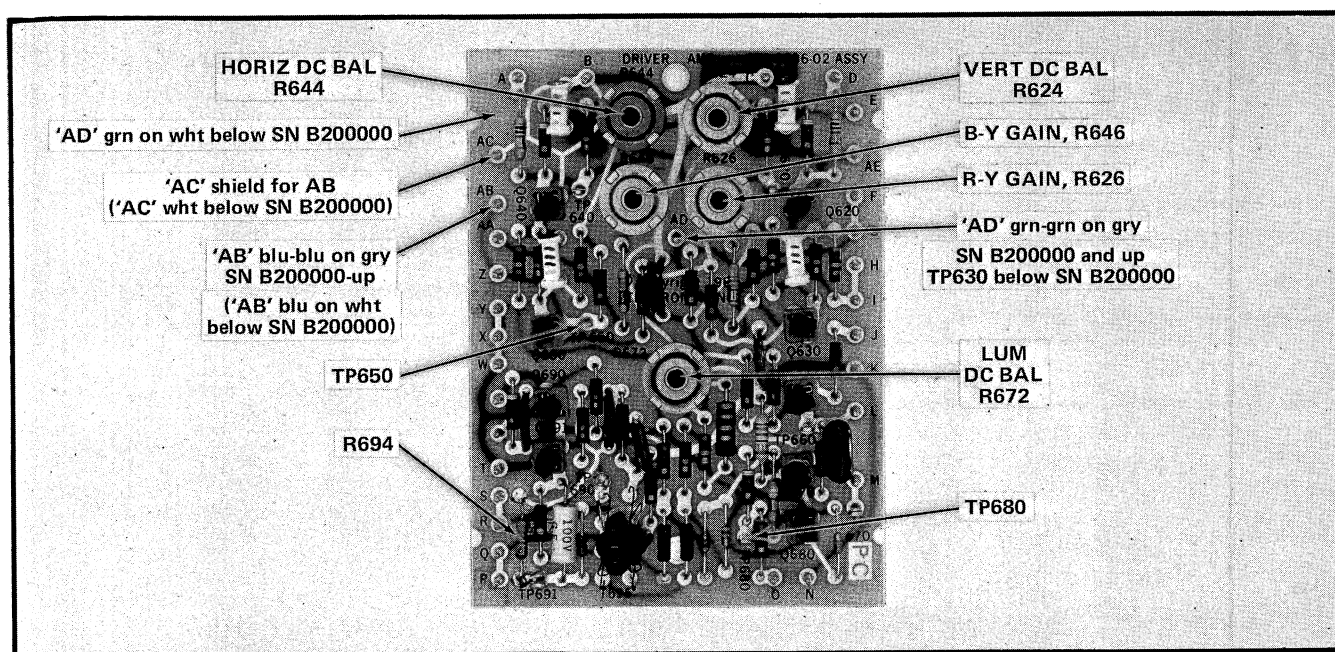

Fig. 6-6. Driver amplifier board pin connector, test point and adjustment locations.
c. Disconnect the blue-blue on gray coax center lead (below SN B200000, blue on white wire) from pin AB on the driver amplifier board; see Fig. 6-6.
i. Disconnect the green-green on gray coax center lead (below SN B200000, green on white wire) from pin AD on the driver amplifier board; see Fig. 6-6.
c. Connect the test oscilloscope 10X probe to the driver amplifier board pin AD (below SN B200000, TP630); see Fig. 6-6.
e. ADJUST—VERT DC BAL control, R624 (see Fig. 6-6), until the DC voltage output of the amplifier is 0.0 volt.
c. Connect the test oscilloscope 10X probe to the driver amplifier board TP650 (emitter of Q650); see Fig. 6-6.
e. ADJUST—HORIZ DC BAL control, R644 (see Fig. 6-6), until the DC voltage output of the amplifier is 0.0 volt.
c. Connect the test oscilloscope 10X probe to driver amplifier board TP680 (collector of Q680 via R684); see Fig. 6-6.
e. ADJUST—LUM DC BAL control, R672 (see Fig. 6-6), until the DC voltage output of the amplifier is +0.5 volt.